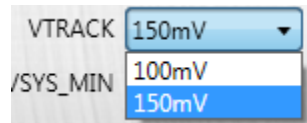

Figure 14: V_{TRACK} Setting
12. Set the voltage variation between the SYS regulation voltage and V_{SYN_MIN} (see Figure 14). The variation can be set to 100mV or 150mV, and the default value is 150mV.